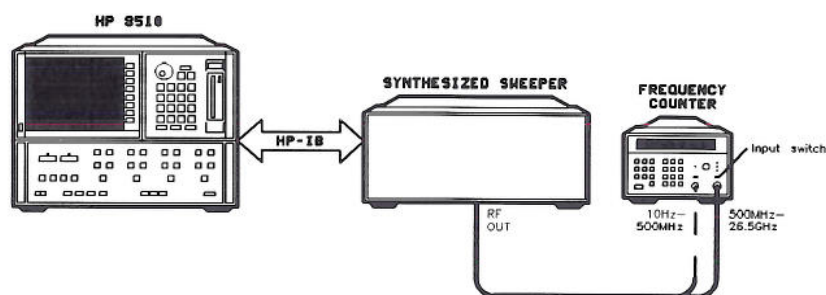

Figure 3-1. CW Frequency Accuracy Equipment Setup
1. Connect the equipment as shown in Figure 3-1.